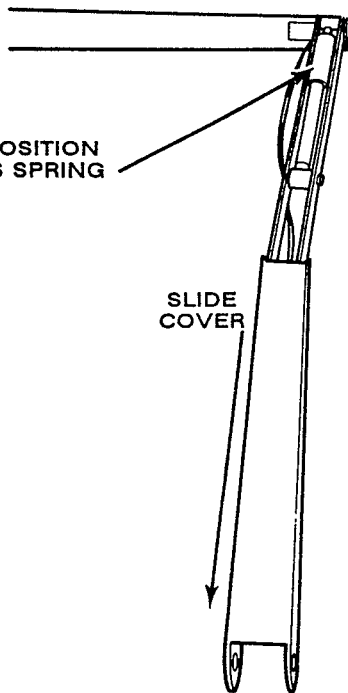

FIGURE 14 - REMOVING COVER
K. Slip cover off front of arm and replace gas spring (Figure 14).
F. Slide cover off arm and replace gas spring. Refer to Figure 14 for a similar replacement procedure.